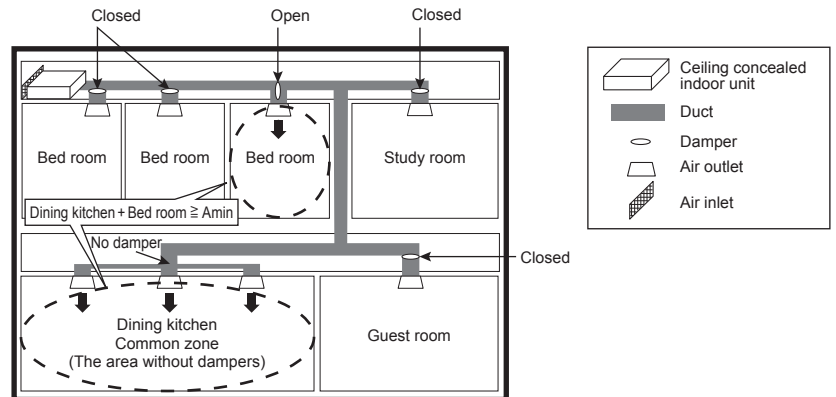

Fig. 2-21
- The area of each room including the common zone must be A_{min} or larger. (See Fig. 2-21)